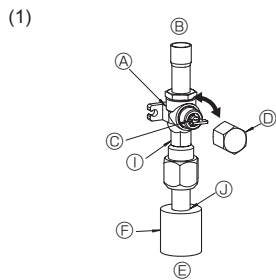

Fig. 4-6
- (1) Gas side (Fig.4-6)
- ① Remove the cap, pull the handle toward you and rotate 1/4 turn in a counterclockwise direction to open.
- ② Make sure that the stop valve is open completely, push in the handle and rotate the cap back to its original position.